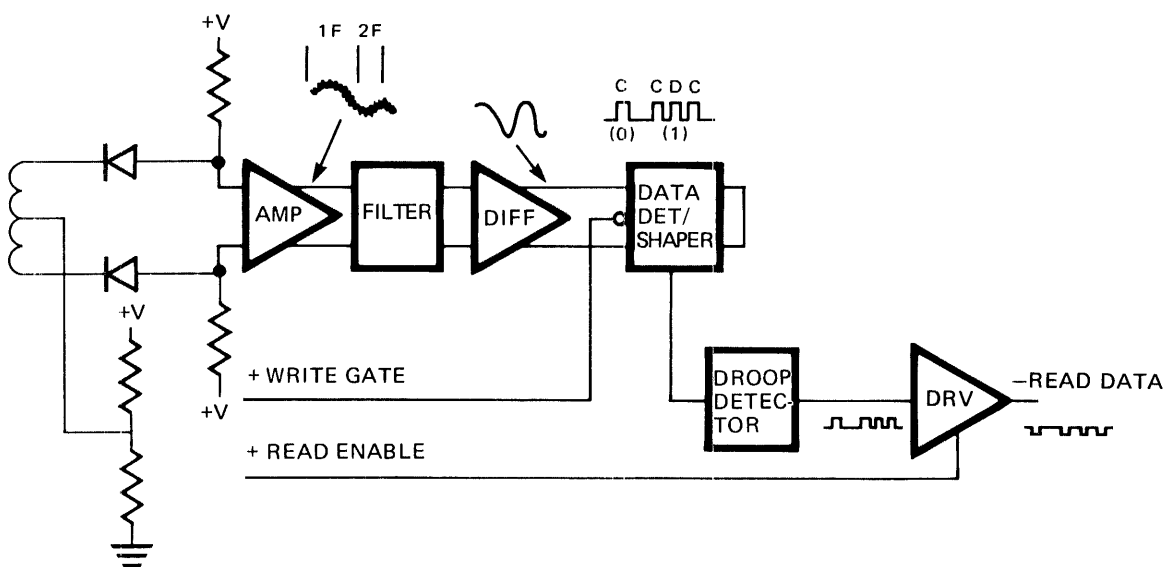

FIGURE 25. READ CIRCUIT FUNCTIONAL DIAGRAM
10.0 READ CIRCUIT OPERATION (FIGURE 25)
10.2 Since a pulse occurs at least once every $8\ \mu\text{s}$ and when data bits are present once every $4\ \mu\text{s}$, the frequency of the read data varies. The read signal amplitude decreases as the frequency increases. Note the signals on Figure 25. The differential amplifier will amplify the read signals to even levels and make square waves out of the read signals (sine waves).